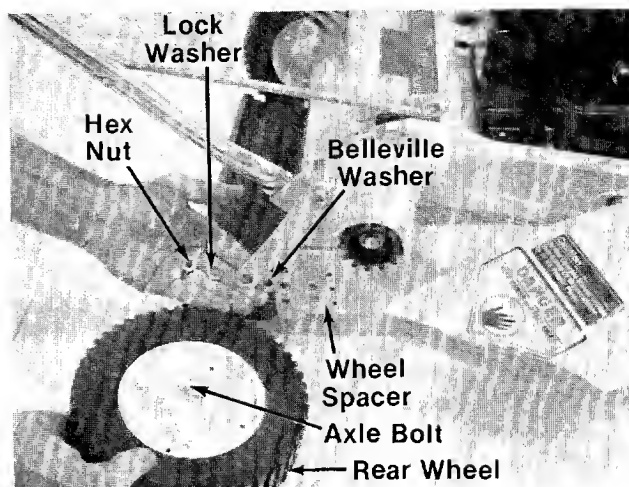

FIGURE 11.
4. Reassemble in selected hole. The belleville washer must be assembled between the link and wheel spacer, with the cupped side of the washer against the deck. See figure 11.